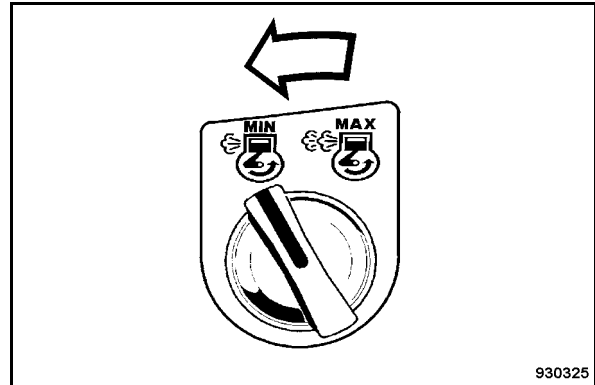

Fig. 61
- Turn the momentary contact switch for engine speed (Fig. 61) anti-clockwise to position "MIN" (idle speed).